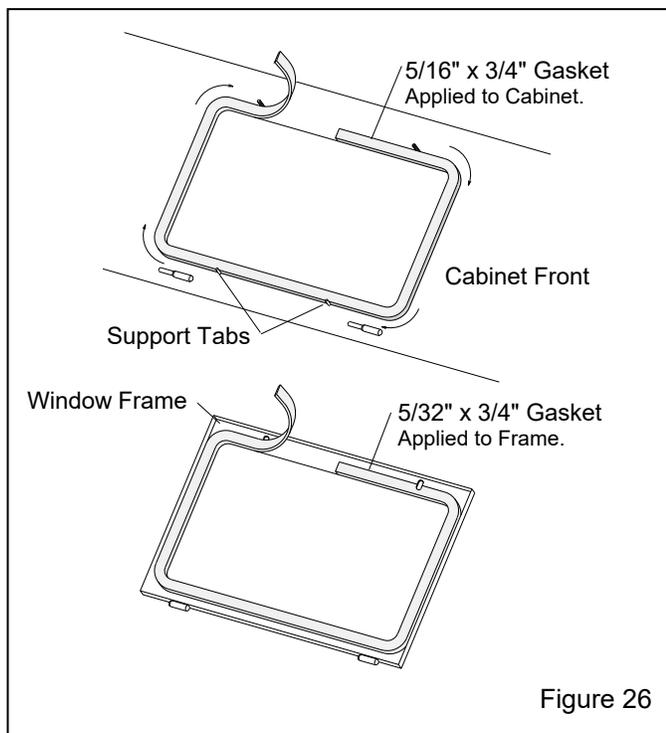

Figure 26
## 7.6 Window-Gasket Replacement – Figure 26
**7.6.4** Peel a short section of adhesive backing from the 5/16"-thick strip gasket and adhere the gasket to the center of the top edge of the window opening, as shown in Figure 26. Peel additional backing as needed and work the strip around the radius of each corner, pressing it firmly to bond. Trim the gasket to fit and compress the ends to seal.